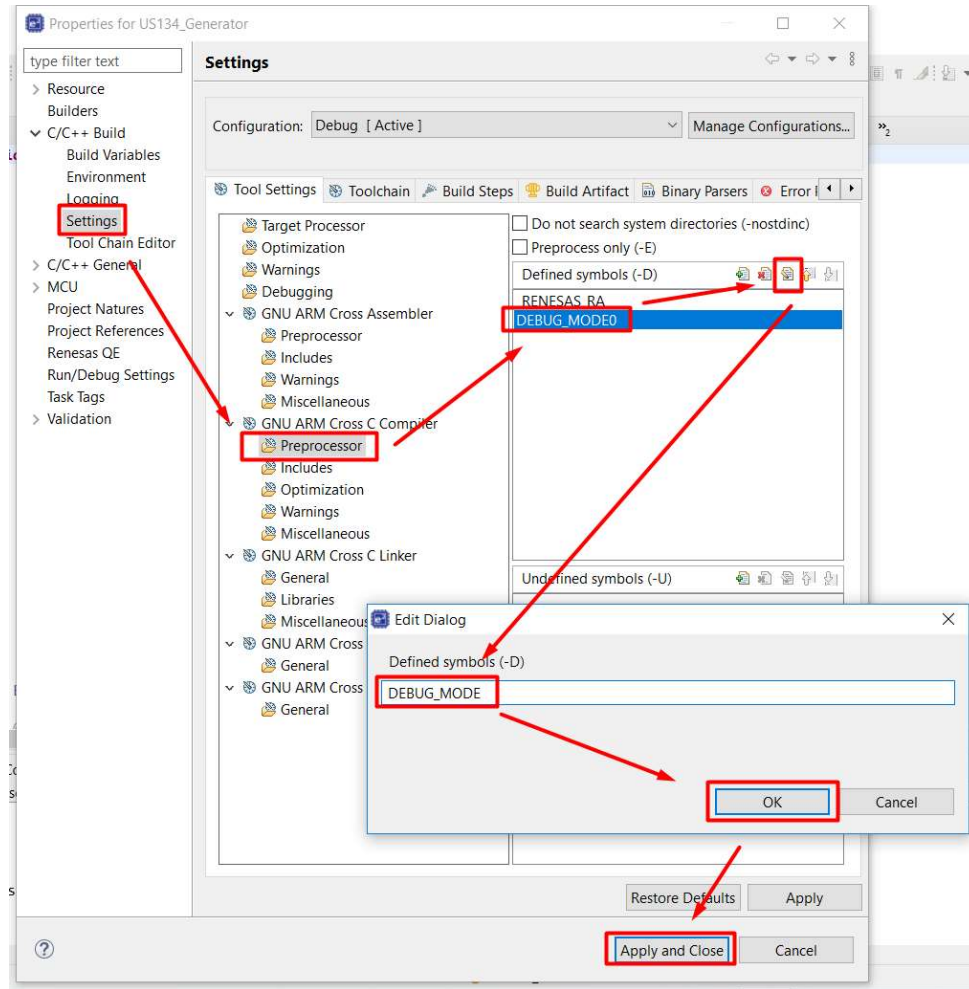

Figure 17. Debug Mode Setting
- Enable printf statements in the e2 studio Renesas Debug Virtual Console (Figure 17)
After connecting the battery packs, the cell balancing connectors, and the RS-485 transceiver with 5V power supply, the hardware connections are complete. The steps below outline the process of running the demo project in standalone mode. If switching from debugging mode to standalone mode, refer to Figure 17 on how to disable debugger print statements.